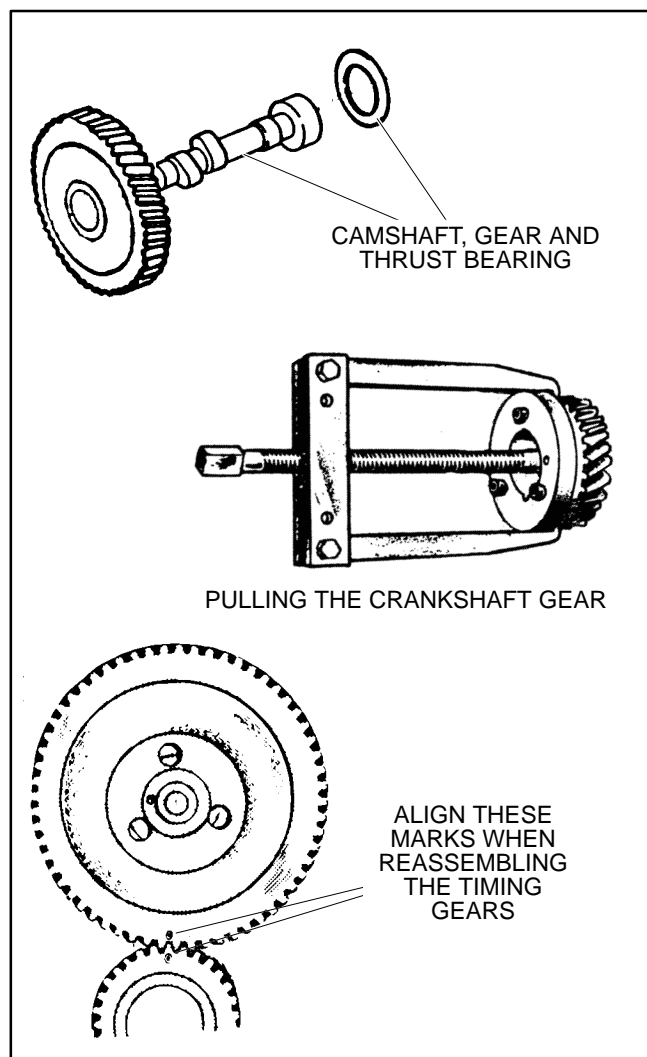

FIGURE 7-27. TIMING GEARS AND CAMSHAFT
7. Remove the crankshaft timing gear. Use a gear puller and ring bolted to the gear with 1/4-20x1 inch Grade 8 bolts (lesser grade bolts will snap off) (Figure 7-27), or the shoulder bolts and flywheel puller which are available.
5. Install the camshaft, making sure the thrust bearing is in place between the gear and the block and that the "0" marks on the timing gears line up (Figure 7-27).